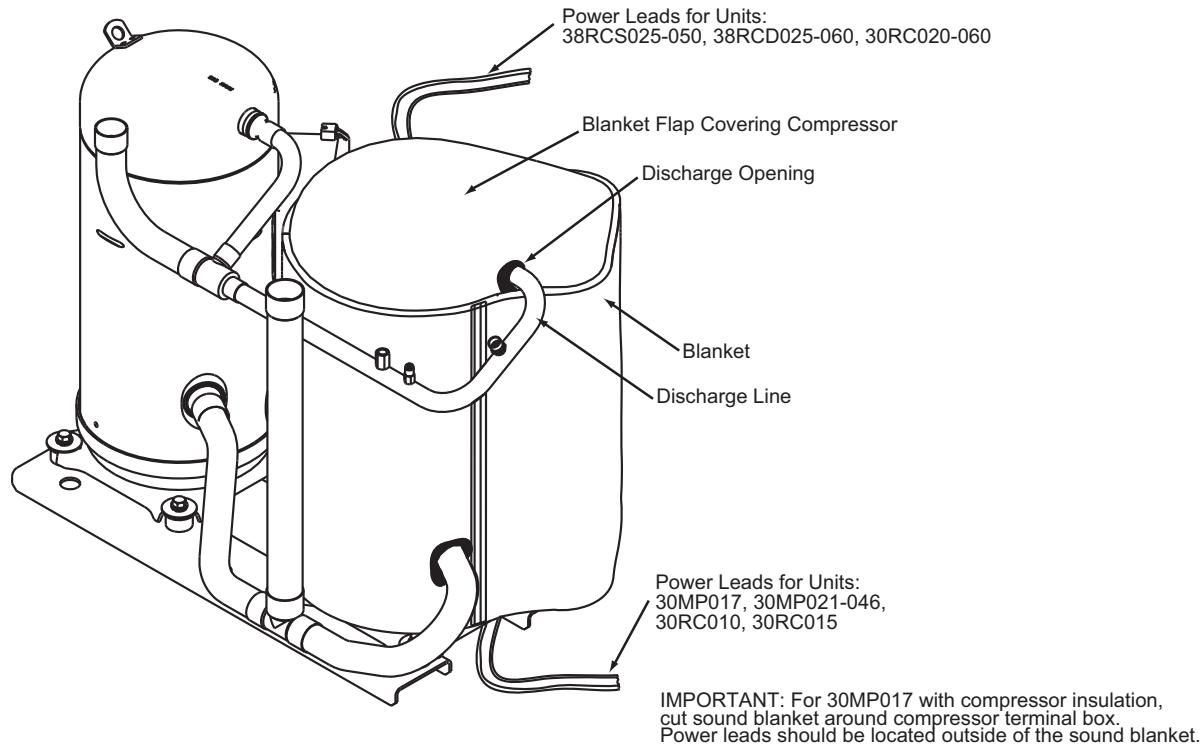

Fig. 6 — Wrap and Secure Sound Blanket and Top Flap Around Compressor and Terminal Box
8. Wrap the blanket around the compressor terminal box. See Fig. 6.
9. Attach the hook and loop strip on the vertical seam to secure the blanket to the compressor. See Fig. 6.
11. Attach top flap of blanket with the hook and loop strip while aligning the discharge opening with the discharge line. See Fig. 6.